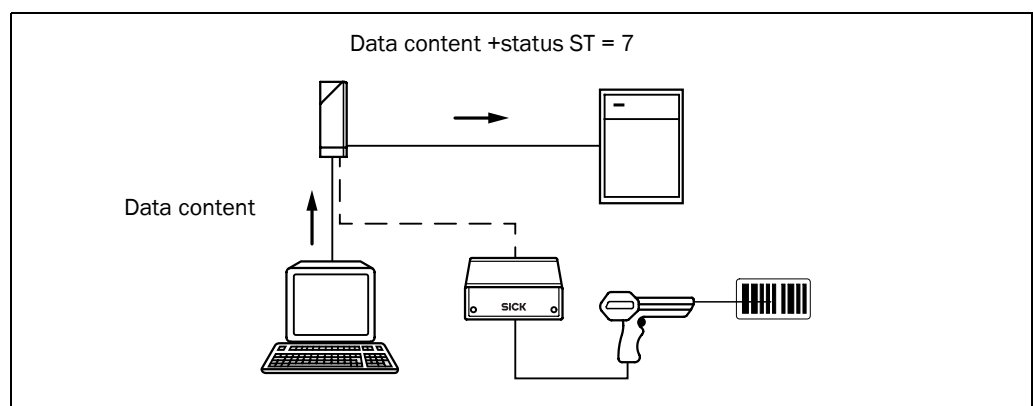

Fig. 10-18: Auxiliary input via the auxiliary interface of the ICR845-2
**Fig. 10-18** shows the flow of auxiliary input.